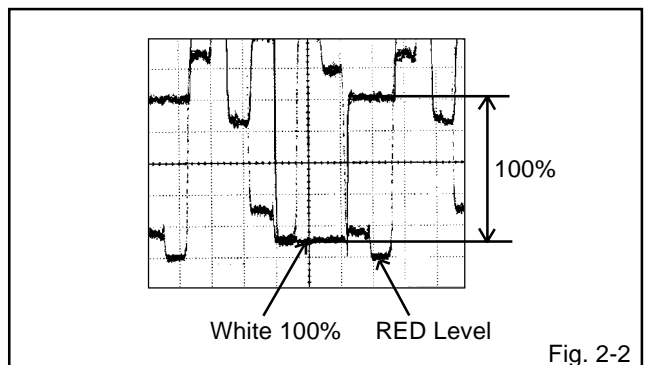

Fig. 2-2
9. Press the VOL. UP/DOWN button on the remote control until the red color level is adjusted to $115 \pm 10\%$ of the white level. **(Refer to Fig. 2-2)**